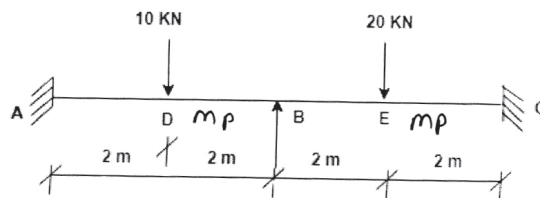

Figure 9
b) Determine plastic moment for the beam as shown in figure 9. [13]